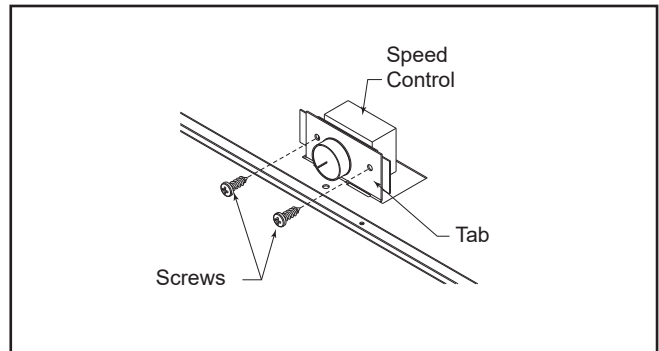

Figure 18
4. Attach the Variable Speed Control to the mounting tab with the 2 screws previously removed. See Figure 18.